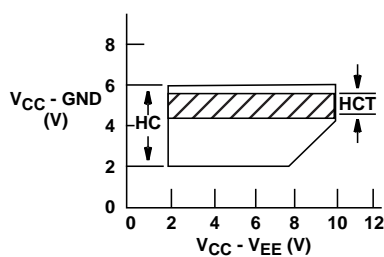

FIGURE 2.
In addition these devices contain logic-level translation circuits that provide for analog signal switching of voltages between ±5V via 5V logic. Each switch is turned on by a high-level voltage on its select input (S) when the common Enable (E) is Low. A High E disables all switches. The digital inputs can swing between V_{CC} and GND; the analog inputs/outputs can swing between V_{CC} as a positive limit and V_{EE} as a negative limit. Voltage ranges are shown in Figures 2 and 3.
HC, HCT Types (Figure 2)	2V to 10V